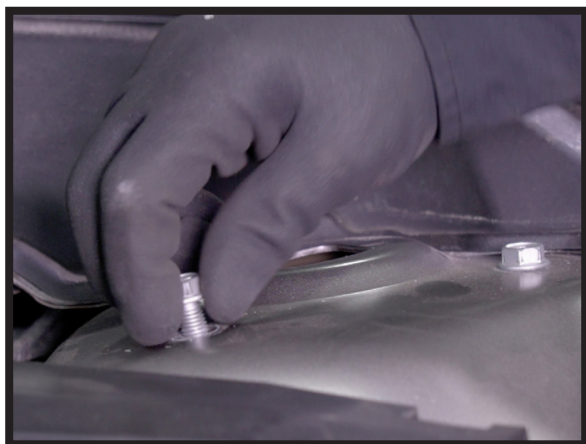

FIGURE 20
4. INSTALL THE THREE (3) PROVIDED TOP MOUNT BOLTS UNDER THE HOOD. TIGHTEN TO MANUFACTURER'S SPECIFICATIONS. (FIGURES 20, 21)